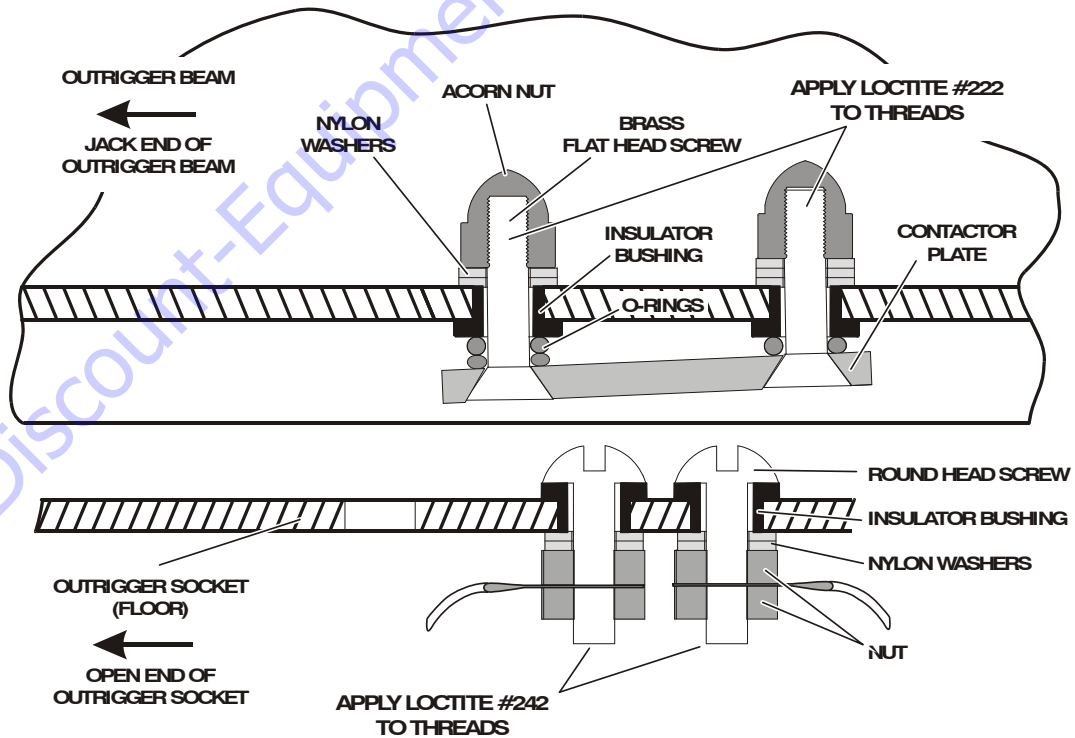

Figure 3-5. Outrigger Socket Contactor Heads and Outrigger Beam - Contactor Plate Mounting Hardware (ORIGINAL AND 5/2001 - DESIGN).
(See Figure 3-5.)
2. Locate contactor plate and insert two (2) brass #8 - 32UNC x 3/4" long countersunk flathead screws through the contactor plate and install two (2) nylon washers on each screw against contactor plate.
4. Install one (1) nylon washer on each screw inside of outrigger beam, against insulating grommet.
5. Thread a brass #8 - 32UNC locknut onto each screw inside outrigger beam, tighten screws until .175" height exists between bottom of plate and bottom most edge of outrigger beam. (See Figure 3-5.)